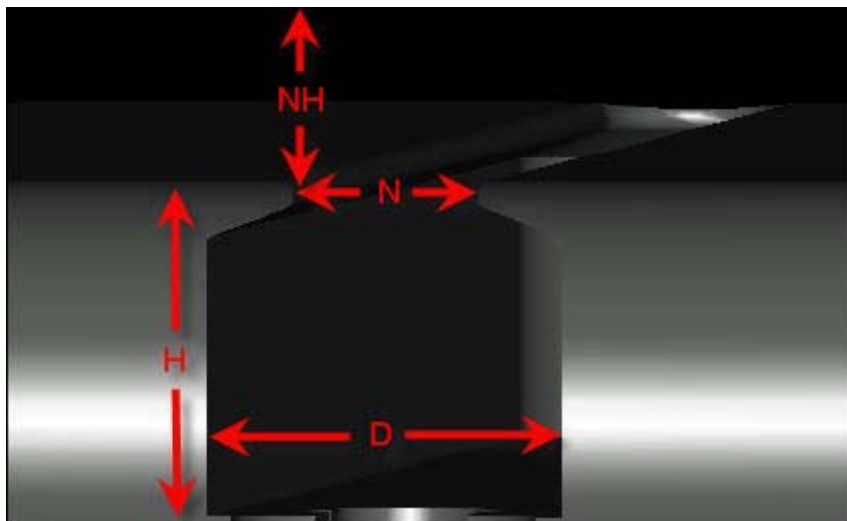
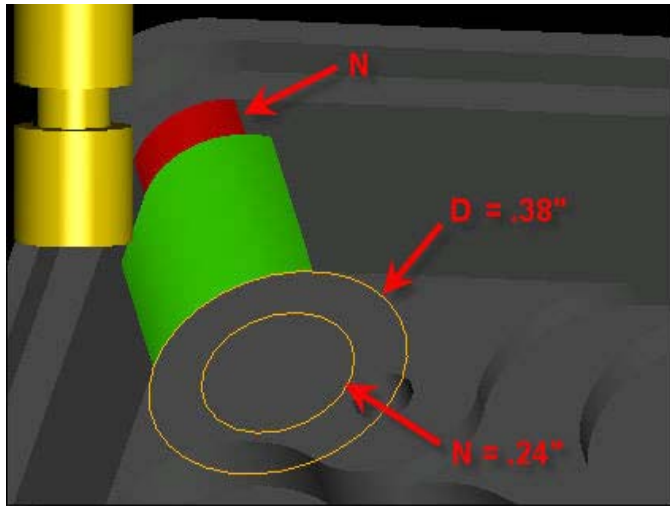

Fig. 13: This image shows a feature that must be machined with an undercutting T-Slot tool.
Fig. 14: This part has a well designed undercut.
Sometimes it is impossible to avoid creating a feature that can't be made with a standard end-mill; often this means using an undercut feature. See Fig. 13 for an example. These features are generally more expensive because they require a custom ground tool (see Fig. 14) in most cases and the cutting feeds are slower to accommodate the more fragile neck (N) diameter. Both the speed of the cutter and also the determination of whether or not the cut can even be made is based on the ratio of the cutting diameter (D) and height of cut (H) vs. the neck diameter (N) and neck
undercut is such that there could be no neck diameter or it would be so small as to be impossible. There is a pretty simple way to avoid this situation. If you are modeling a feature that requires an undercut, you can sketch in both the cutting and the neck diameters as shown in Fig. 14.
Figure 14. We can see in this example, that the ratio of D:N is about 1.5:1 which is a very reasonable and inexpensive feature. You should also note the ratio between the cut height H and neck height NH are also at a reasonable ratio. The neck height is very short so the cutter will not be too fragile. (This part had much worse ratios before the customer consulted with Pro CNC). When you do this with your own part, measure and take note of these ratios to see if they seem too extreme and therefore expensive. It is also important to note that these two diameters share a common axis. That is not often the case and makes this exercise even more important in determining what the size of the cutting tool will be.